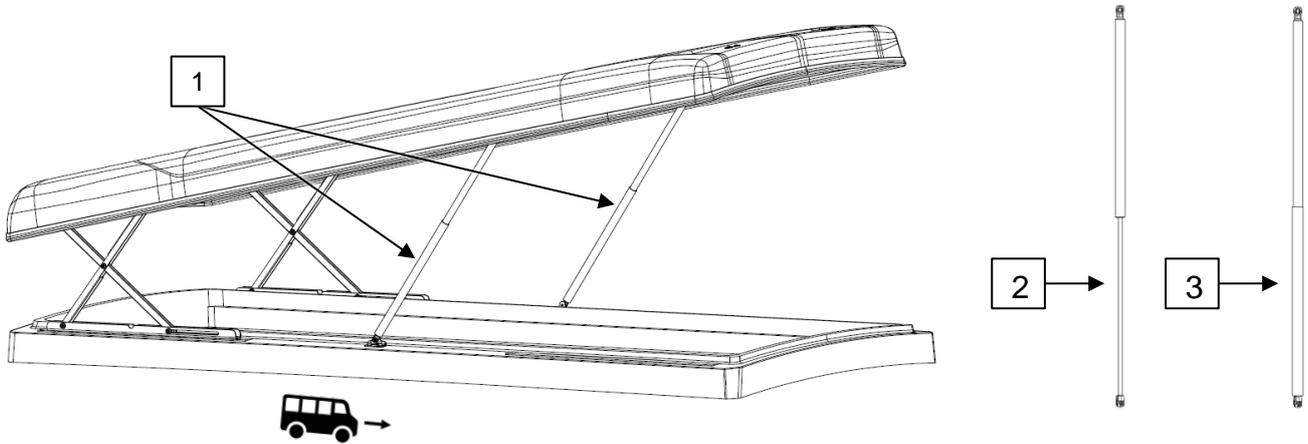

Abb. 5-2: Exterior view pop top roof [G0001549]
- Raise up the roof and hook in the gas springs (Protective tube downward) (see Abb. 5-2, 1):
- **When hooking in, make sure that the piston rod (2) (covered by the protective tube (3)) points downwards!**